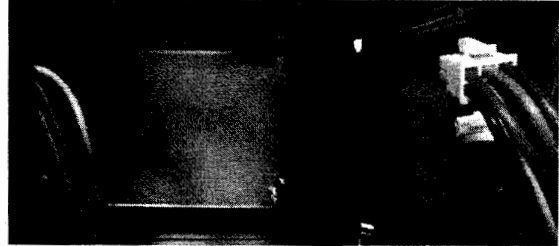

Figure 4 – Exposed Mounting Location
3. Remove the field connection board from the mounting location. See Figure 4.
3. Carefully place field connection board in mounting location. See Figure 4.